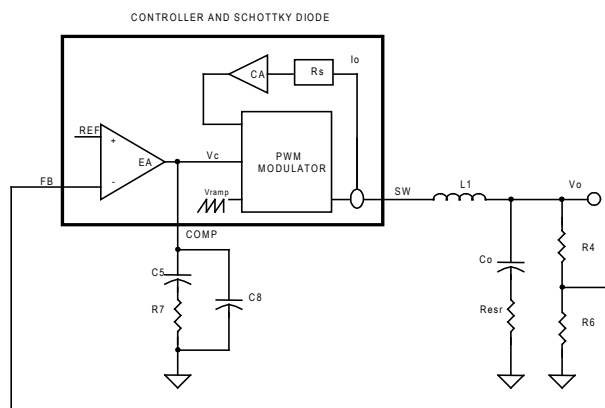

Figure 8. Block diagram of control loops
The goal of compensation is to shape the frequency response of the converter so as to achieve high DC accuracy and fast transient response while maintaining loop stability (see Figure 8).
The block diagram in Figure 8 shows the control loops of a buck converter with the SC4524E. The inner loop (current loop) consists of a current sensing resistor ($R_s=5.5m\Omega$) and a current amplifier (CA) with gain ($G_{CA}=18.5$). The outer loop (voltage loop) consists of an error amplifier (EA), a PWM modulator, and a LC filter.
For a converter with switching frequency F_{SW} , output inductance L_1 , output capacitance C_o and loading R, the control (V_c) to output (V_o) transfer function in Figure 8 is given by: